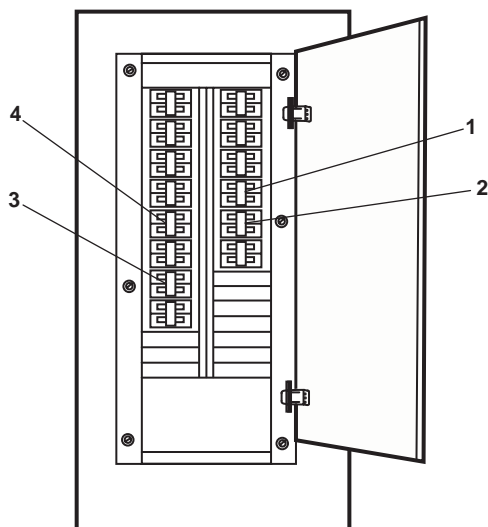

Figure 5. 120V Emergency Distribution Panel No. 1
- a. FIRE DETECTION SYSTEM. (figure 5, item 1).
- b. E.O.T. SYSTEM. (figure 5, item 2).
- c. MONITOR SYSTEM CIRCUIT. (figure 5, item 3).
- d. REMOTE PROPULSION INDICATOR PANEL. (figure 5, item 4).